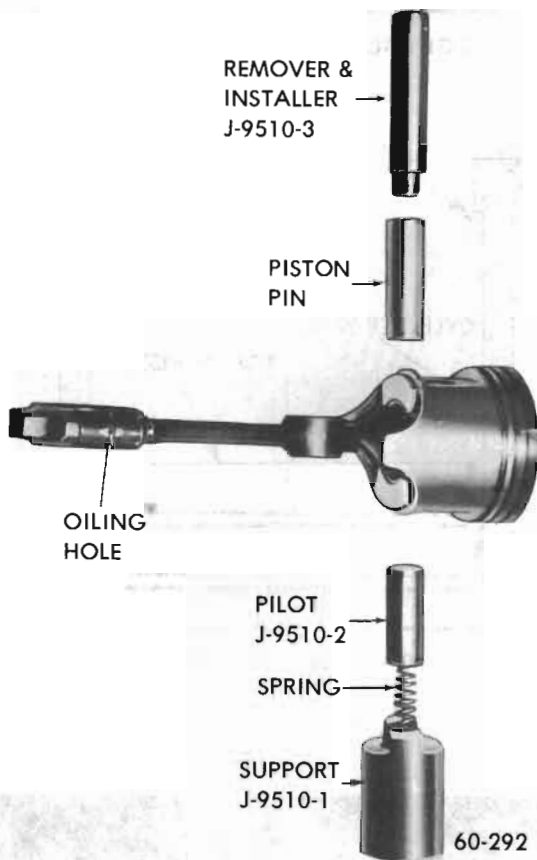

Figure 60-41--Piston Pin and Tool Layout
(a) Place connecting rod and piston assembly in a hydraulic press with piston on support (J-9510-1), then using remover (J-9510-3) press piston pin out. See Figure 60-41.
2. Using Tool J-9510, place support (J-9510-1) with spring and pilot (J-9510-2) in place on an arbor press. See Figure 60-41.